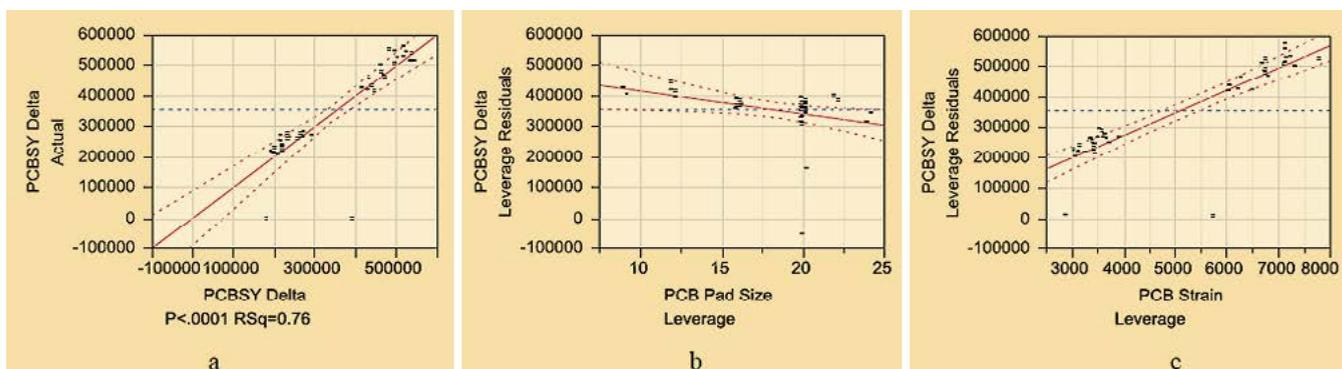

Figure 5: (a) Accuracy estimate of prediction model; (b) correlation between PCB SY and PCB pad size; (c) correlation between PCB SY and PCB global strain.
size. A detailed numerical model was built to simulate the pin pull test. BGA pads of varying diameter were simulated and pulled to estimate the tensile stress built underneath the pad. Quarter symmetry was used to model the pads, as shown in Figure 4. The force applied in the model corresponded to the forces applied to the pad sizes shown in Figure 5.
testing per IPC/JEDEC 9702: (1) at a location far afield from the package perimeter (global strain), (2) underneath the cornermost BGA (local strain) and (3) underneath the package center (local strain). Since local strain is very difficult to measure accurately, the global strain has been used to derive all the guidelines. The results of the analysis are shown in Figure 5.
From the results, one can conclude that a stress-to-failure threshold stress under the BGA pad of 333,706 Pa (HTD) translates to a global PCB strain of about 5000 $\mu\epsilon$ (Figure 5). That means that if a given package assembly is subjected to more 5000 global microstrain, it could result in complete pad crater rupture. It is important to note that this is strain to complete rupture, not partial pad crater. Similarly, for the HTFP material, the global PCB strain to crater translates to 3000 $\mu\epsilon$ (corresponding to a threshold stress of 199,285 Pascal).
It can also be seen from Figure 5 that the selected pad size can significantly alter the PCB strain. For pad sizes that are 20 mils and below, the PCB stress is higher than the threshold stress value. This is borne out in experimental bend test results, where for pad sizes 20 mils or below, the failure mode is predominantly pad cratering. In addition, it has been shown in experimental tests that increasing the pad size from 20 mils to 25 mils significantly reduces the propensity for pad cratering^[4].